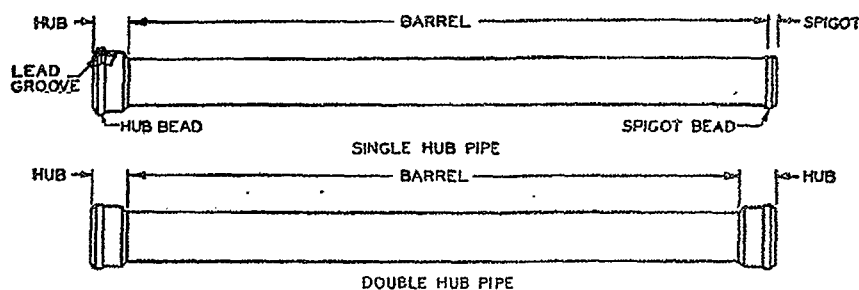

FIGURE 1. Single hub and double hub cast iron soil pipe.
**2.2.1 Ends of pipe.**—Single-hub pipe shall have a hub at one end and a spigot at the other. Double-hub pipe shall have a hub at each end. Hubs shall have lead grooves. Spigot end may be either with or without a bead, and inner end of hub may be either with or without a centering recess, all combinations of which shall make a satisfactory leakproof joint. Hub and barrel shall be cast in one piece. (See Fig. 1.)